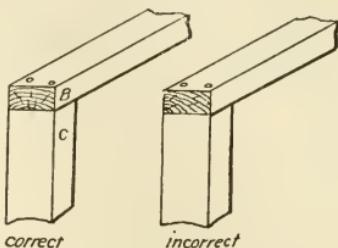

FIG. 114.—CORRECT AND INCORRECT METHOD OF PLACING THE NAILS.
7. Assembling the bench. — In assembling the bench nail the crosspieces on to the top of the legs with 20d. spikes. In nailing, be sure to stagger the nails, which means that they should not be placed parallel to the outer edges. Fig. 114 shows the correct and incorrect method. If the tops of the legs have been sawed